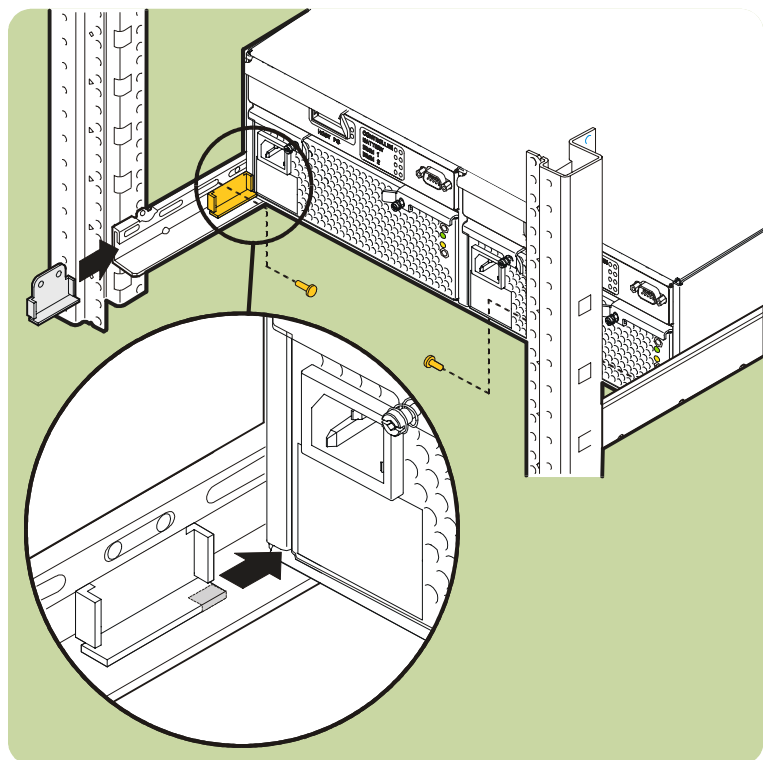

Fig. 17. Installing enclosure rail clamps in HP Rack System/E
10. Place two rail clamps on the rails and slide them into each rear corner of the array chassis. (see Fig. 17).